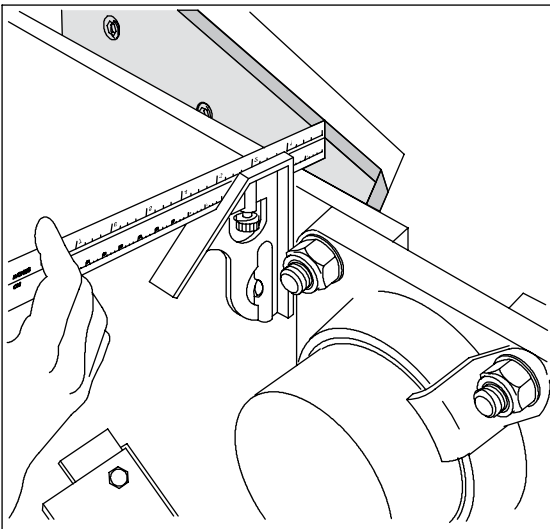

Fig 29. Knife-to-chamber distance
1. Measure the knife-to-chamber distances for both ends of the adjusted knife. The knife-to-chamber distance is the distance between the edge of the knife and the frame chamber, see Fig. 29.